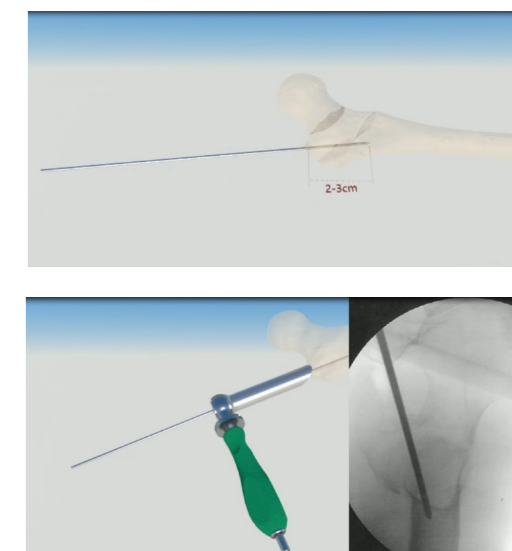

Figure 3a
- Attach the three piece set of entrance channel combination tools to the bone surface through the incision. Using specifications of Φ 3.2x340 guide needle penetrates through the channel and drills into a large protrusion of about 2-3cm. Be careful not to drill too deep and establish incorrect channels, resulting in poor alignment and alignment (Figure 3a).